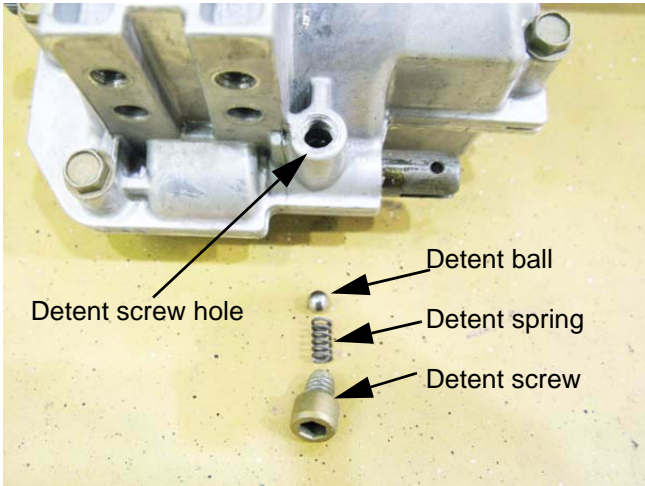

Figure 5.60
5. Use a magnet, or turn the transaxle upside-down to remove the detent ball and spring. See Figure 5.60.